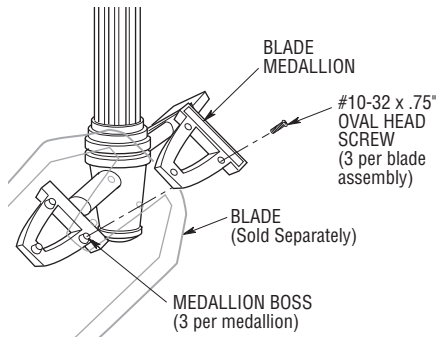

Figure 6
- 1. With the fan suspended on the ceiling, position a blade on top of the ceiling fan blade flange by aligning the raised bosses into the blade mounting holes. Carefully position the blade medallion onto the blade by aligning its bosses with the blade holes. Install three #10-32 x .75" oval head screws into the mounting holes of the medallion and securely tighten each screw (Figure 6). If using wooden blades, be very careful not to over tighten the blade screws.